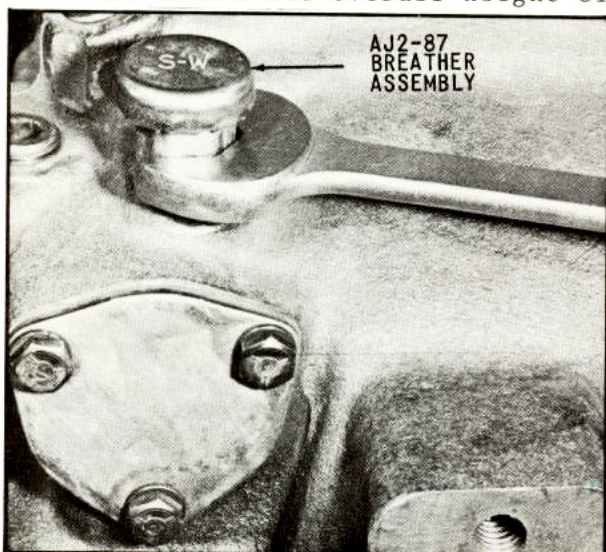

Fig. 101 Installation of Breather Assembly
1. Assemble the screw-in type breather assembly as shown in (Fig. 101).